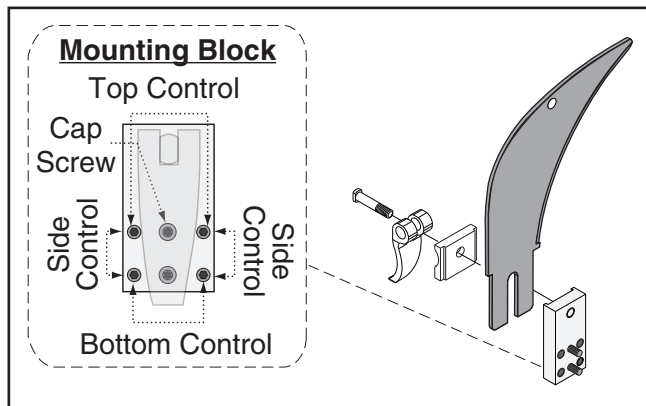

Figure 119. Set screws for adjusting spreader/riving knife position.
Figure 119 shows the set screws associated with controlling the mounting block position.
4. Loosen (2) cap screws on mounting block, then adjust set screws on block to move it in necessary direction (see "Mounting Block" inset in **Figure 119**).